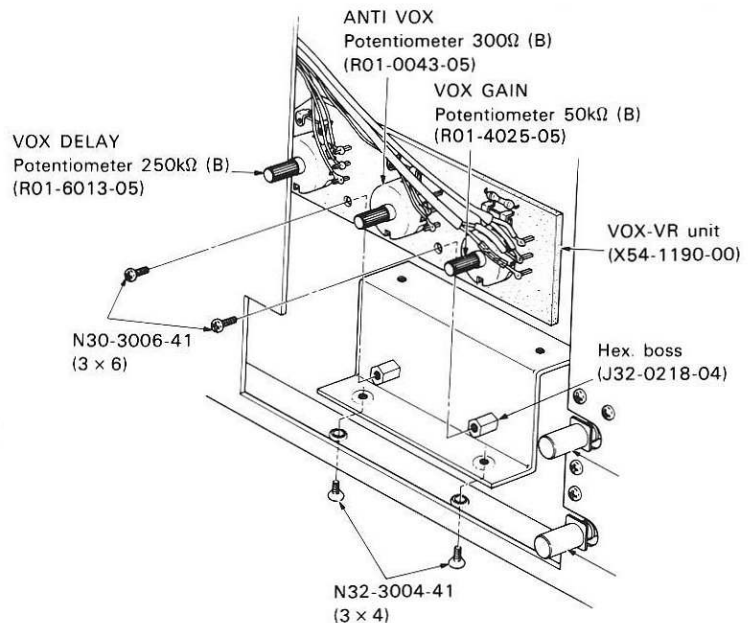

Fig. 17(a) Removing the VOX · VR unit
- 3) Remove from the subpanel the chassis, on which the VOX/VR unit is mounted, according to **Fig. 17** and detach the unit.